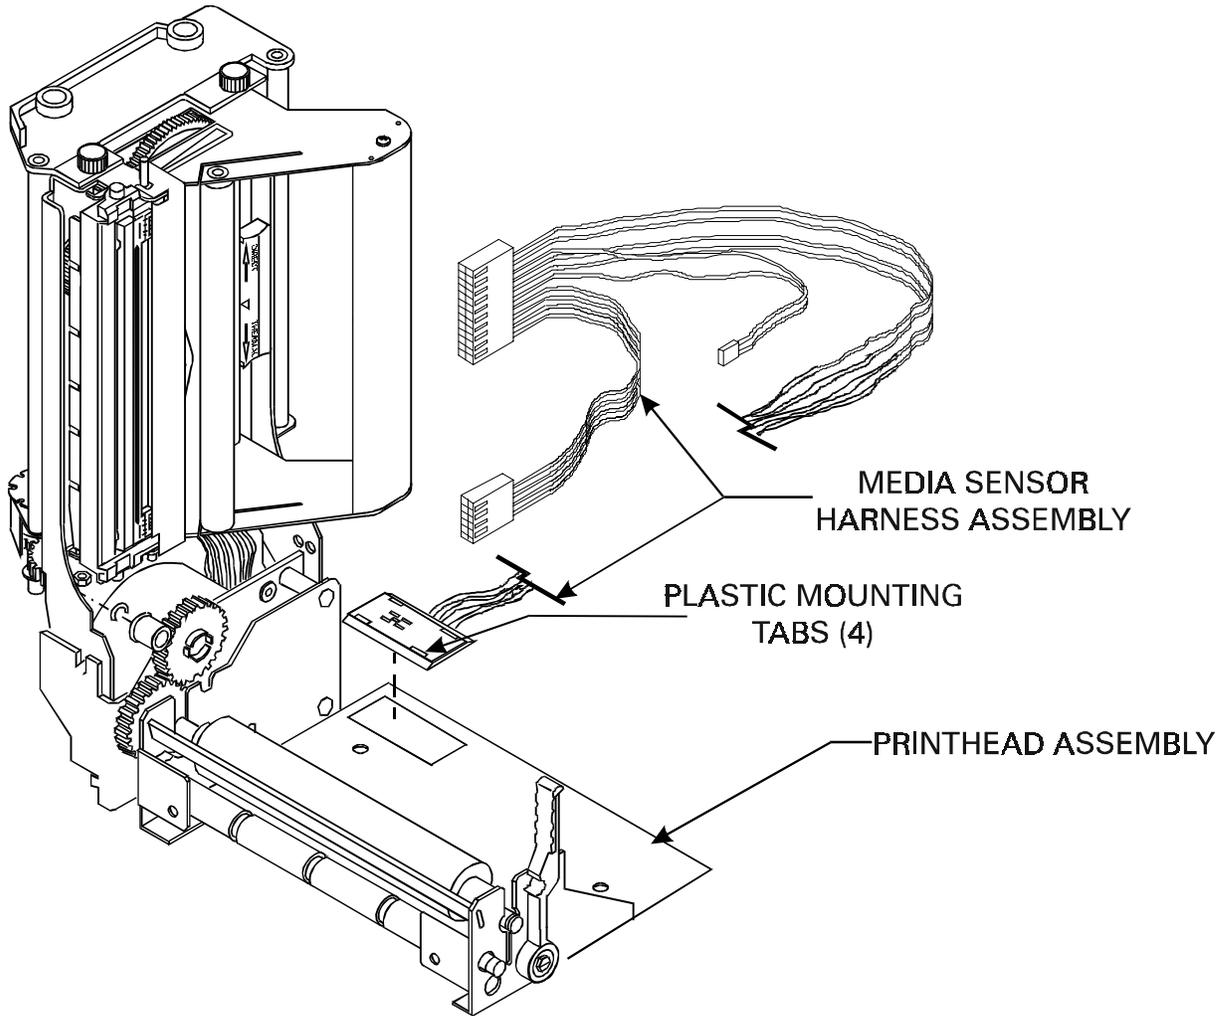

Figure 20. Removal of the Media Sensor Harness Assembly
Remove the Media Sensor Harness Assembly (see Figure 20)
6. Under the Printhead assembly, press in the four plastic tabs on the sensor and remove the sensor from the Printhead Assembly (see Figure 20).